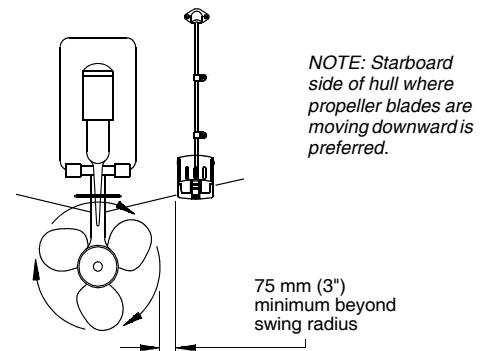

Figure 2. Mounting location on single drive boat
- **Single drive boat**—Mount at least 75 mm (3") beyond the swing radius of the propeller (see Figure 2). The starboard side where the propeller blades are moving downward is preferred.